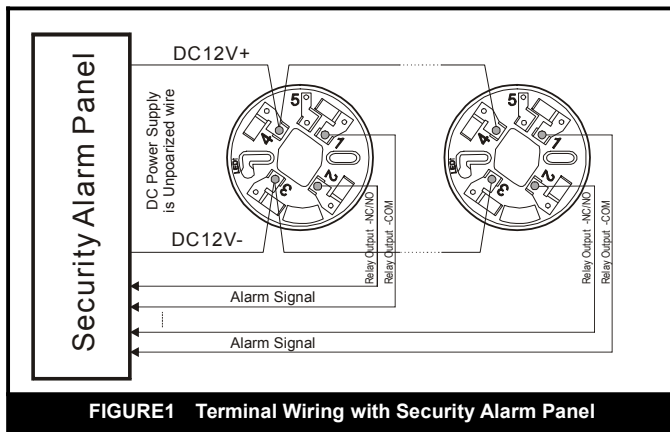

FIGURE1 Terminal Wiring with Security Alarm Panel
- The detector can be connected with Security alarm panel as Figure1. Relay output signal can be changed from Normal Close(NC) to Normal Open(NO) by Jump JP1 on the PCB board.